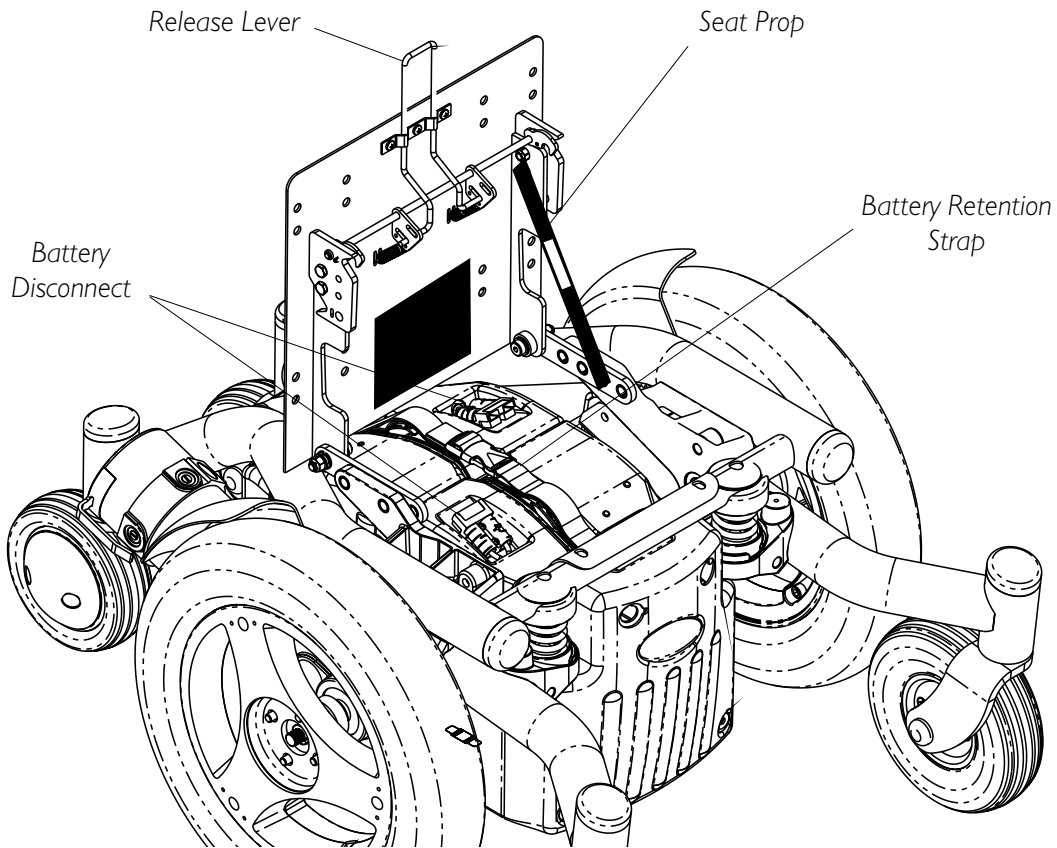

FIGURE 2 - REMOVING/INSTALLING BATTERY ASSEMBLIES
3. Pull release lever located underneath the front of the seat to disengage as shown in FIGURE 2 .
4. Tilt seat backward and lock seat in upward position with seat prop as shown in FIGURE 2.
5. Disconnect the battery wiring harness from the front battery as shown in FIGURE 2.
6. Disconnect battery wiring harness from the rear battery in FIGURE 2.
7. Disconnect the battery retention strap in FIGURE 2.
4. Connect the battery retention strap as shown in FIGURE 2.
5. Connect the battery wiring harness to the rear battery as shown in FIGURE 2.
6. Connect the battery wiring harness to the front battery as shown in FIGURE 2.